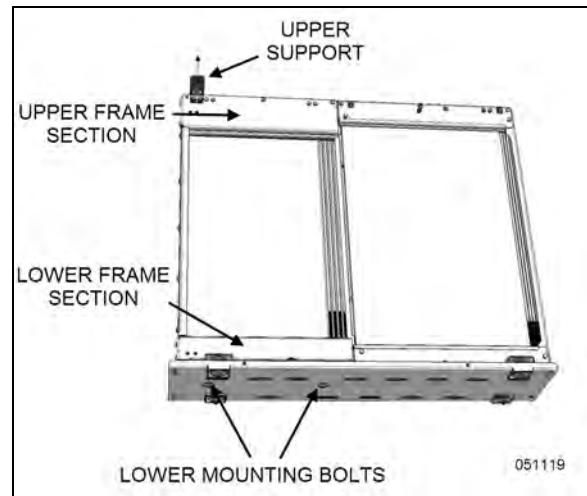

FIGURE 52: CAC FRAME SECTIONS
15. Reinstall both (upper and lower) front frame sections (Figure 52).